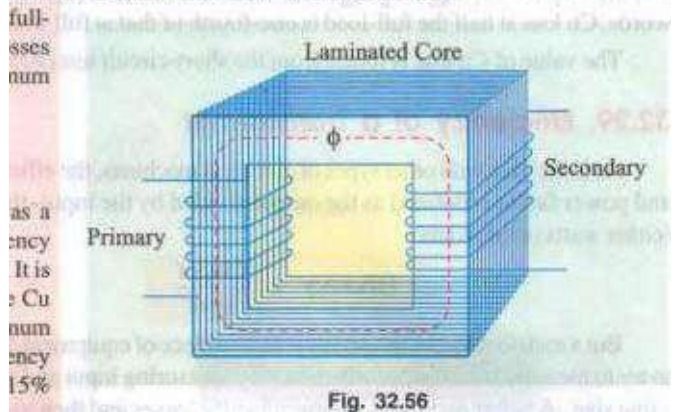

Fig. 32.56
-In Fig. 32.56, Cu losses are plotted against power input and the efficiency curve as deduced from these is also shown. It is obvious that the point of intersection of the Cu and iron loss curves gives the point of maximum efficiency. It is seen that the efficiency is high and is practically constant from full-load to overload. (ii) The efficiency at any load is given by